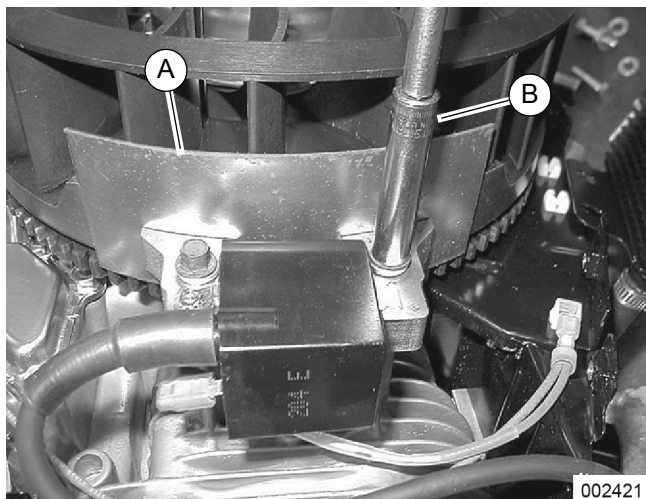

Figure 4-12. Adjusting Air Gap
2. See Figure 4-12. Place a 0.008–0.012 in (0.20–0.30 mm) thick, non-magnetic shim (A) between magnet and ignition coil laminations.